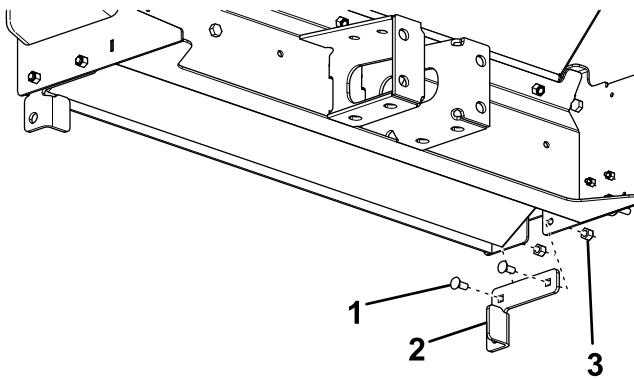

**Figure 20**
1. Remove and retain the motor cover (Figure 20).